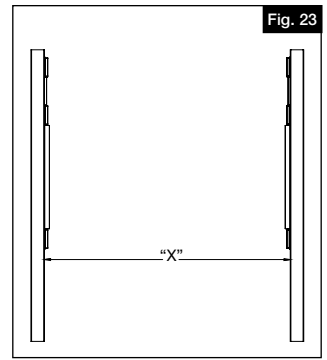

Fig. 23
Determine spacing between posts (X), (Fig. 23).